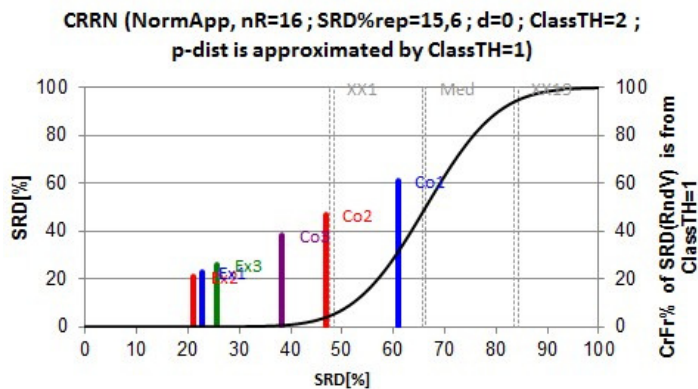

Fig.2: CRRN figure of the input **DM**
4.) The next step of *SRDrepCrV* is the wellknown **SRDrep-CRRN** evaluation (including **SRD-Tables**, **CRRN-figures**, and if available, **probability distributions** for the original **DM's RC** and for each of the **minors' RC**.) Here we show only the figures, because they represent clearly the most important data of **SRD-Tables**, as well. The first **CRRN-figure** (Fig.2) is the result of the **DM** above with the given **RC**, containing four ties with values 45, 60, 35, and 50, having the lengths 2, 8, 2 and 3, respectively. Because  $nR > 15$ , for the distribution function **Normal** approximation is necessary.
This **CRRN-figure** resulted from the same **DM** as the first one (Fig.2), but now the **RC** – as one can see in **Tab.2** – contains a very long tie, so **ClassTH=4**, that's why **p-Dist** is missing